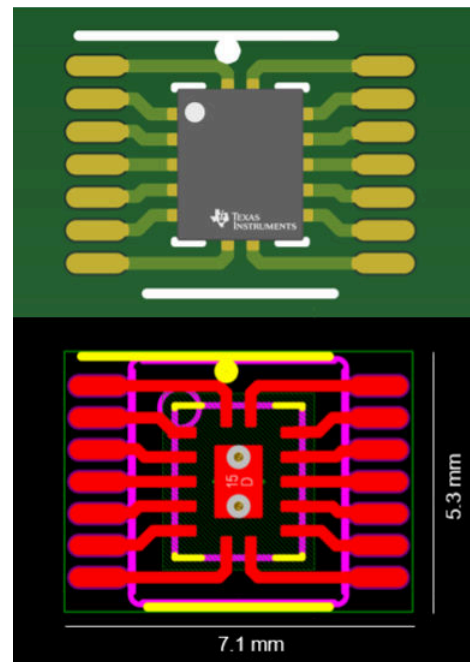

Figure 1. PW + BQA Dual Footprint
Figure 1 shows a dual footprint for a TSSOP (PW) 14-pin package and a WQFN (BQA) 14-pin package.